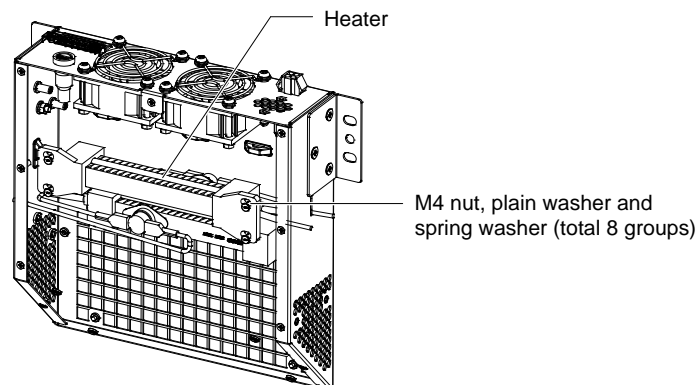

Figure 4-5 Position of heater
4. Loosen the eight groups of M4 nuts, flat washers, spring washers (see Figure 4-5) used to fix the heater, and remove the heater.